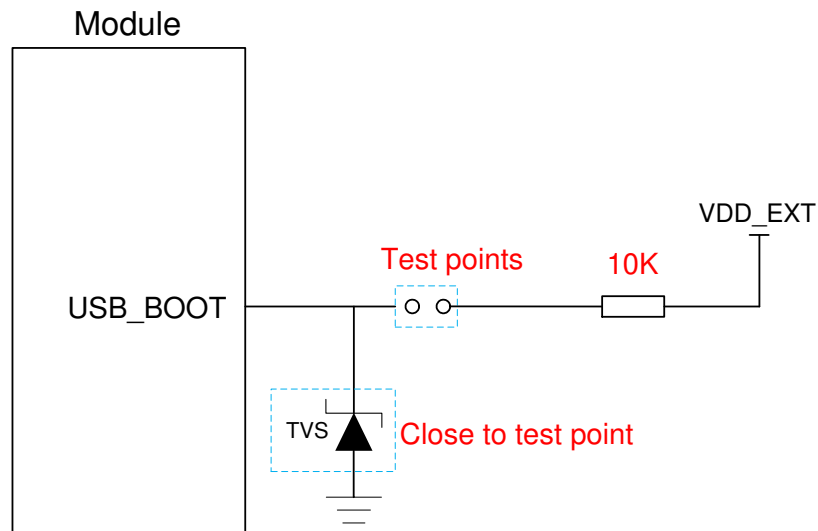

Figure 16: Reference Design of USB_BOOT Interface
3. When using MCU to control the module entering forced download mode, follow the above timing. Connecting the test points as shown in **Figure 16** can manually force the module to enter download mode.
4.3. (U)SIM Interface